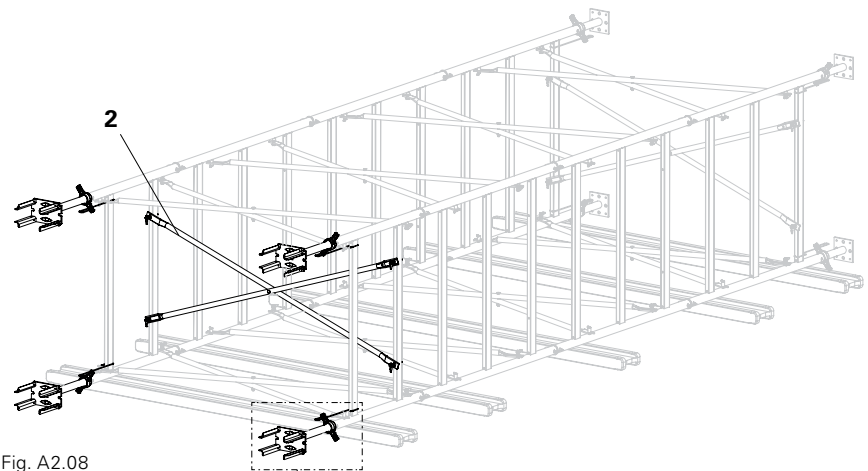

Fig. A2.08
- With horizontal assembly, one PD 5 Diagonal Brace (2) must be mounted in the top level. (See Section "A2 Horizontal Assembly – Base". (Fig. A2.08)